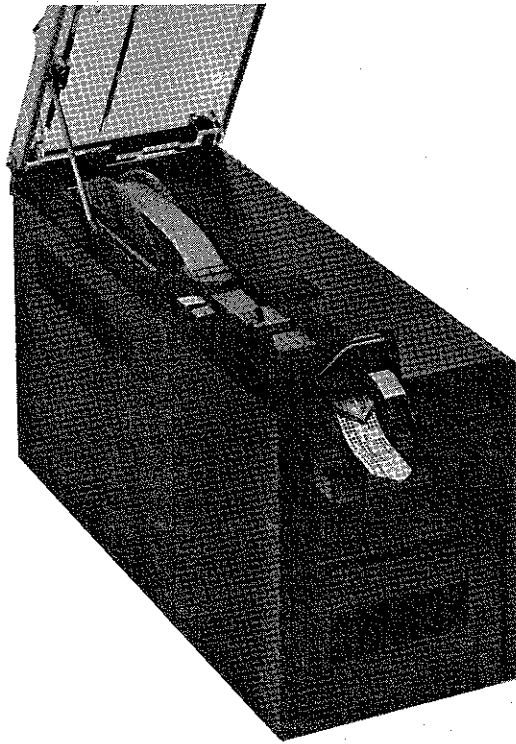

Figure 11.2 - Tape punch
- TP 4881 is a tape punch (figure 11.2)